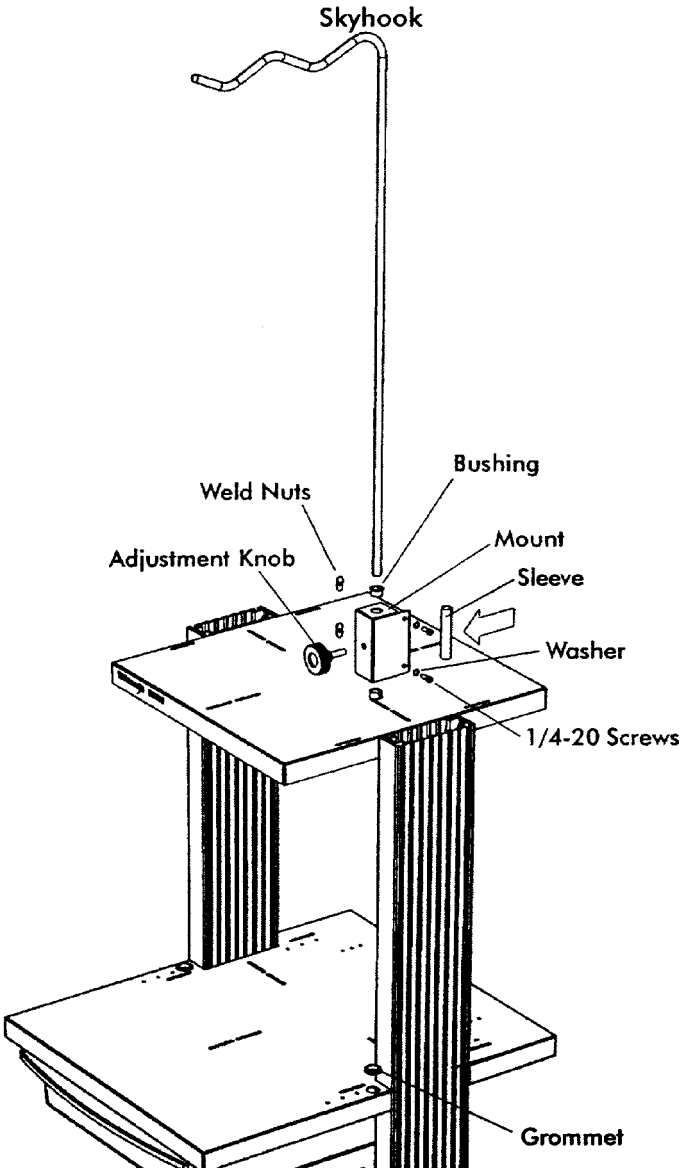

Figure 3: Installing the skyhook (cable support) hardware (K4000 cart shown).
2. Install the weld nuts, lockwashers and cap head screws on the mount as shown in Figure 3. Leave each screw assembly loose; do not screw the weld nut onto the cap head screw more than one full turn.
3. Prepare the cable support (skyhook) by first pressing the bushings into the holes in the top and bottom of the mount as shown in Figure 3. Next place the sleeve on the inside of the mount and align the sleeve with the openings in the top and bottom of the mount. Slide the skyhook through the top of the mount and through the sleeve. Now install the adjustment knob and tighten lightly to secure the skyhook.